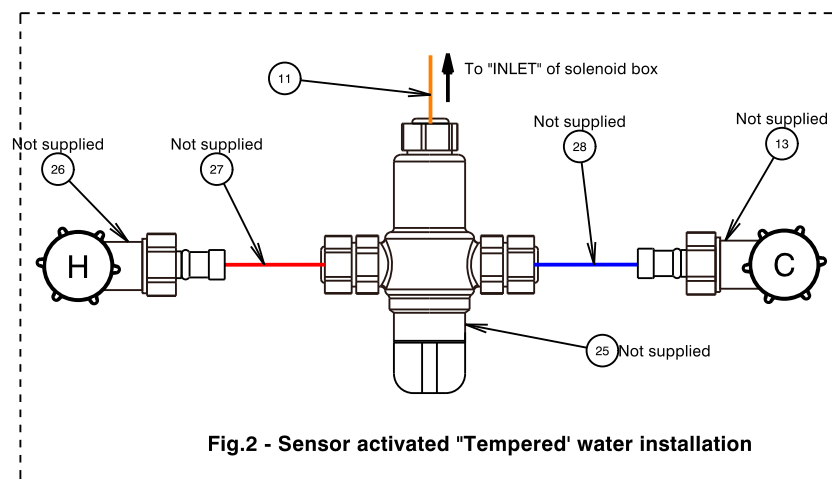

Fig.2 - Sensor activated "Tempered" water installation
b) Sensor activated 'Tempered' water bypass (Fig.2)-